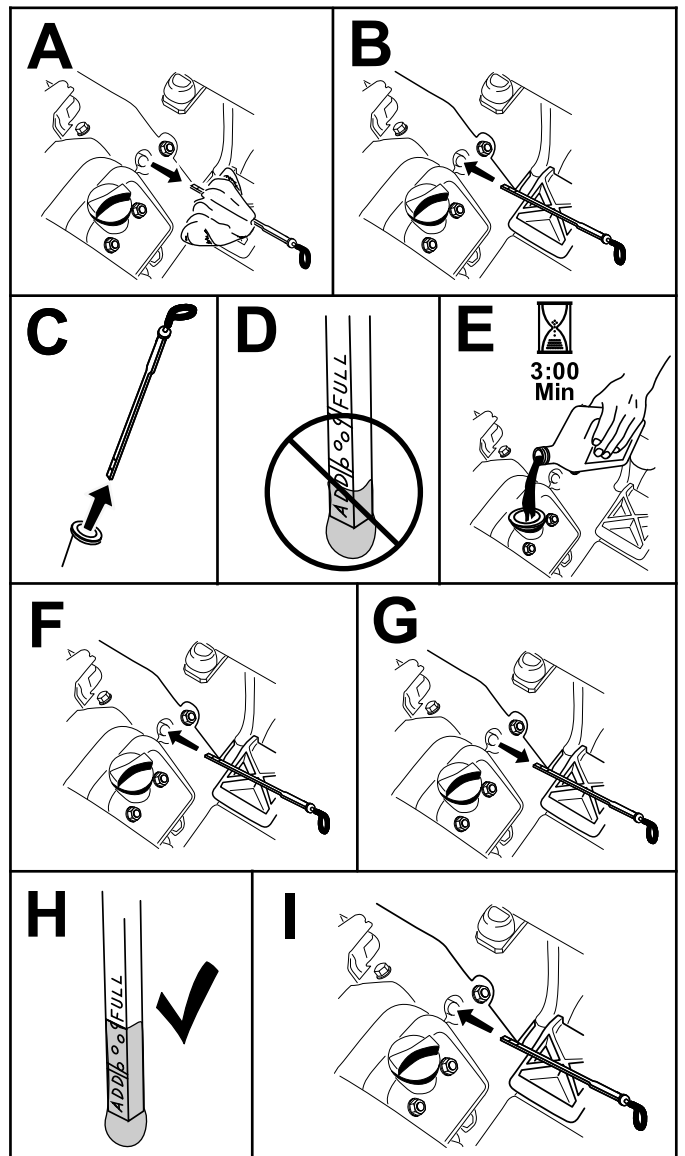

Figure 25
5. Insert the dipstick into the tube and make sure that it is fully seated. Remove the dipstick from the tube and check the oil level. If the oil level is low, remove the filler cap from the valve cover and add enough of the specified oil to raise the level to the Full mark on the dipstick (Figure 25).